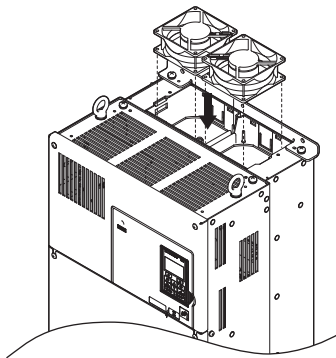

Figure 7.15 Installing the Cooling Fan: 4□0075 and 4□0091
1. Install the replacement fan into the drive. Align the pins as shown in Figure 7.15.
3. Angle the fan cover as shown in **Figure 7.15** and insert the connector tabs into the corresponding holes on the drive.